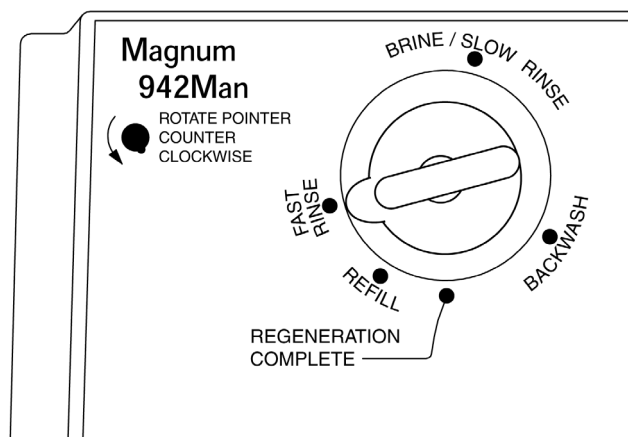

Figure 5.3
4. When the slow rinse is complete, move the indicator knob **COUNTERCLOCKWISE** to the center of the **Fast Rinse** position (Figure 5.3). The indicator knob should remain in the **Fast Rinse** position for the appropriate amount of time. specific fast rinse times are determined by water quality, clarity of drain water, water pressure, and flow. Fast rinse serves to eliminate excess salt and repack the resin bed for the service run. Typically fast rinse should continue for 5 - 15 minutes\*.